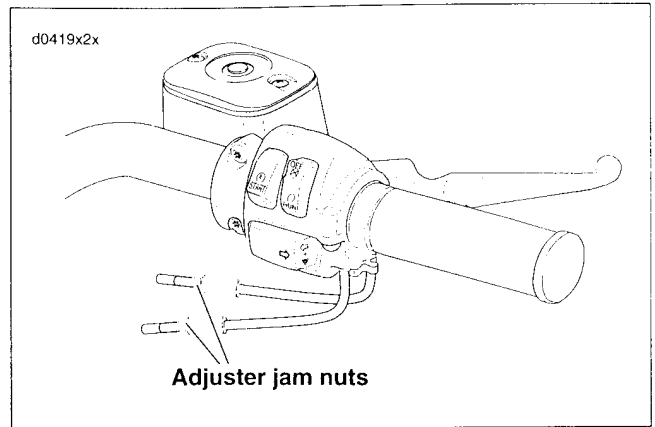

Figure 2-110. Handlebar Throttle Control
1. See Figure 2-110. Loosen cable adjuster jam nuts. Screw throttle cable adjuster until it is as short as possible. Remove the two screws that hold the handlebar housing together to separate the upper and lower housings.